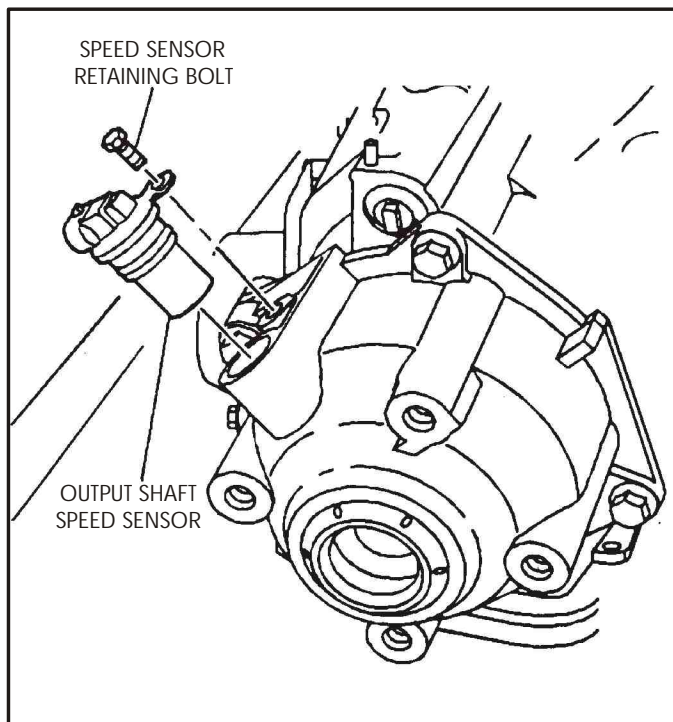

Figure 211
36. Install the speed sensor into final drive housing and torque the bolt to 11 N.m (98 lb.in.), shown in Figure 211.